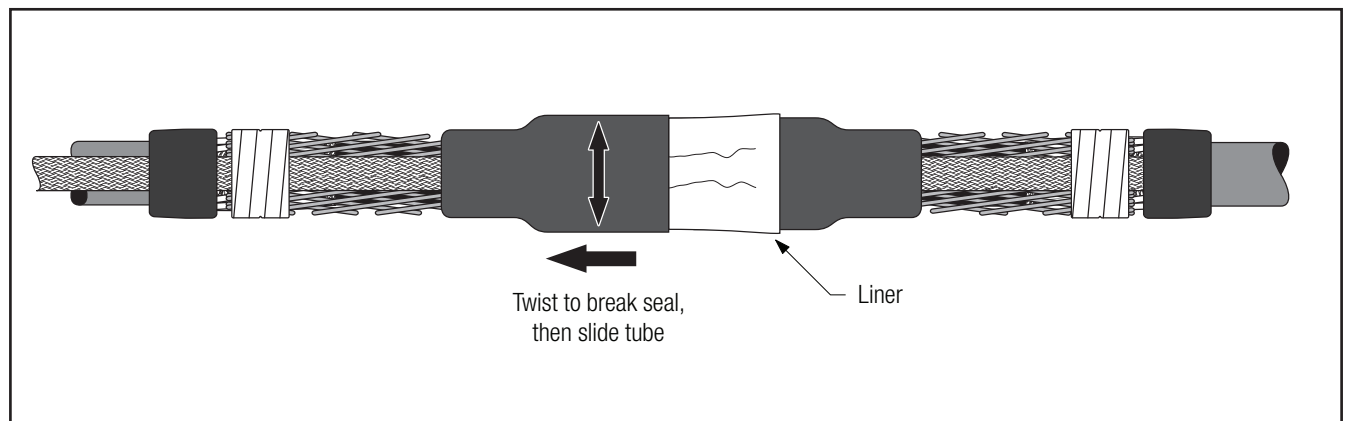

Figure 23
- 6.2 Install the re-jacketing tube by twisting the tube (not the liner) from side to side to start the movement. Then slide and unroll the tube over the constant force springs and rubber mastic. (*Figure 23*). Repeat on other side.